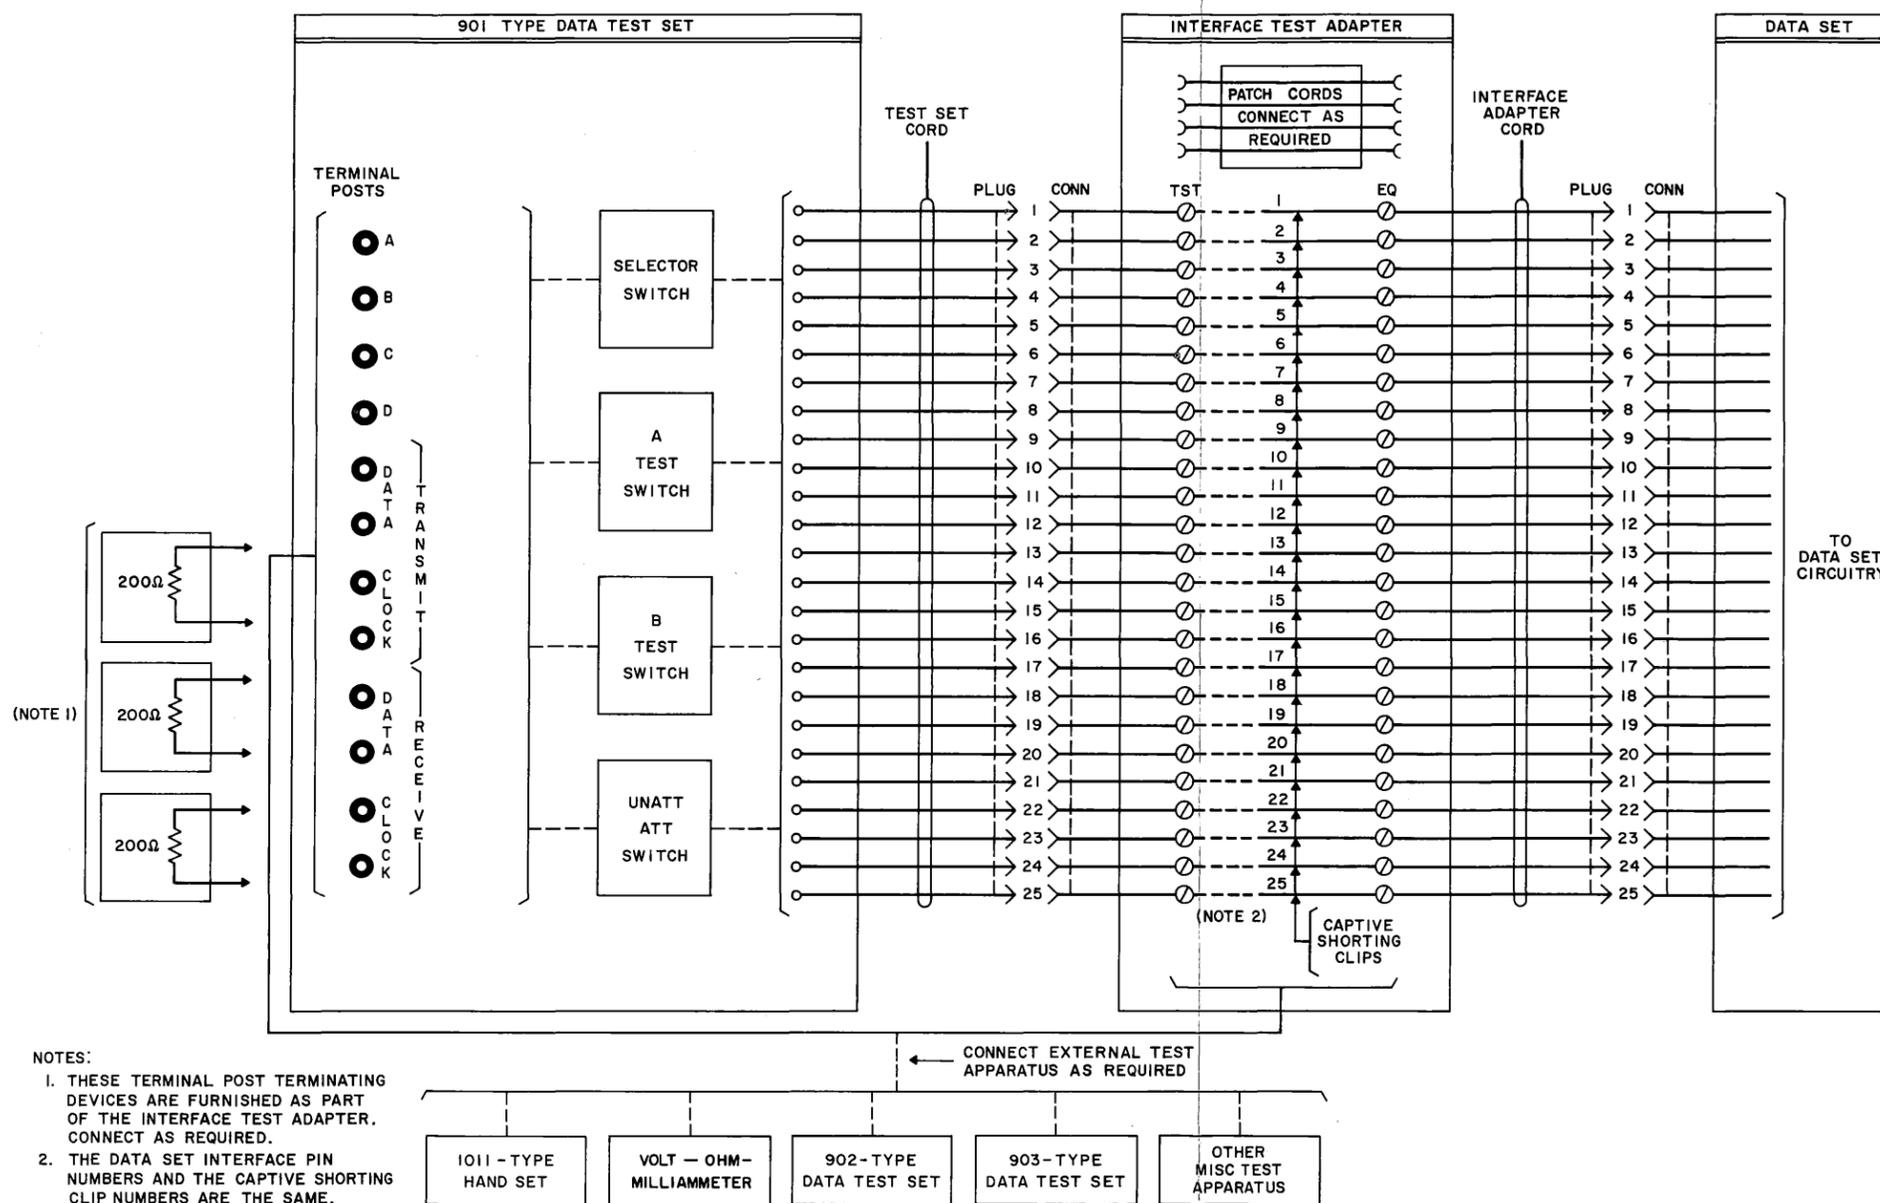

Fig. 5 — Block Diagram, Typical Test Arrangement with Data Set Not In-Service (Using 901B Set and Interface Test Adapter)
- Make Minor Changes to Fig. 5
**2.07** Use of the Interface Test Adapter provides access to all data set interface pins. This allow *In-Service*, (business machine connected and data set on line — Fig. 3) or *Not-In-Service* (business machine not connected and data set on or off line — Fig. 5, block diagram) type tests.